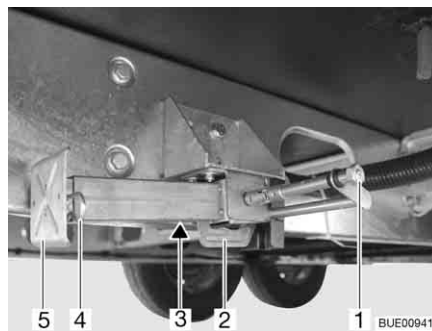

Fig. 31 Steady leg
- Place the socket spanner on the hexagonal nut (Fig. 31,1) and rotate until the steady leg is in a perpendicular downward position.
- If the length of the steady leg can be adjusted, remove the splint (Fig. 31,4) out of the support foot extension (Fig. 31,5).
- Place the socket spanner on the hexagon nut (Fig. 31,1) and rotate until the steady leg is clear of the ground.
- Push in the support foot extension (Fig. 31,5) and insert the splint (Fig. 31,4) in the drilled hole in the support foot extension.
- Rotate the hexagonal nut (Fig. 31,1) until the steady leg has swung upwards and the guide (Fig. 31,2) has reached the very end of the slot (Fig. 31,3).